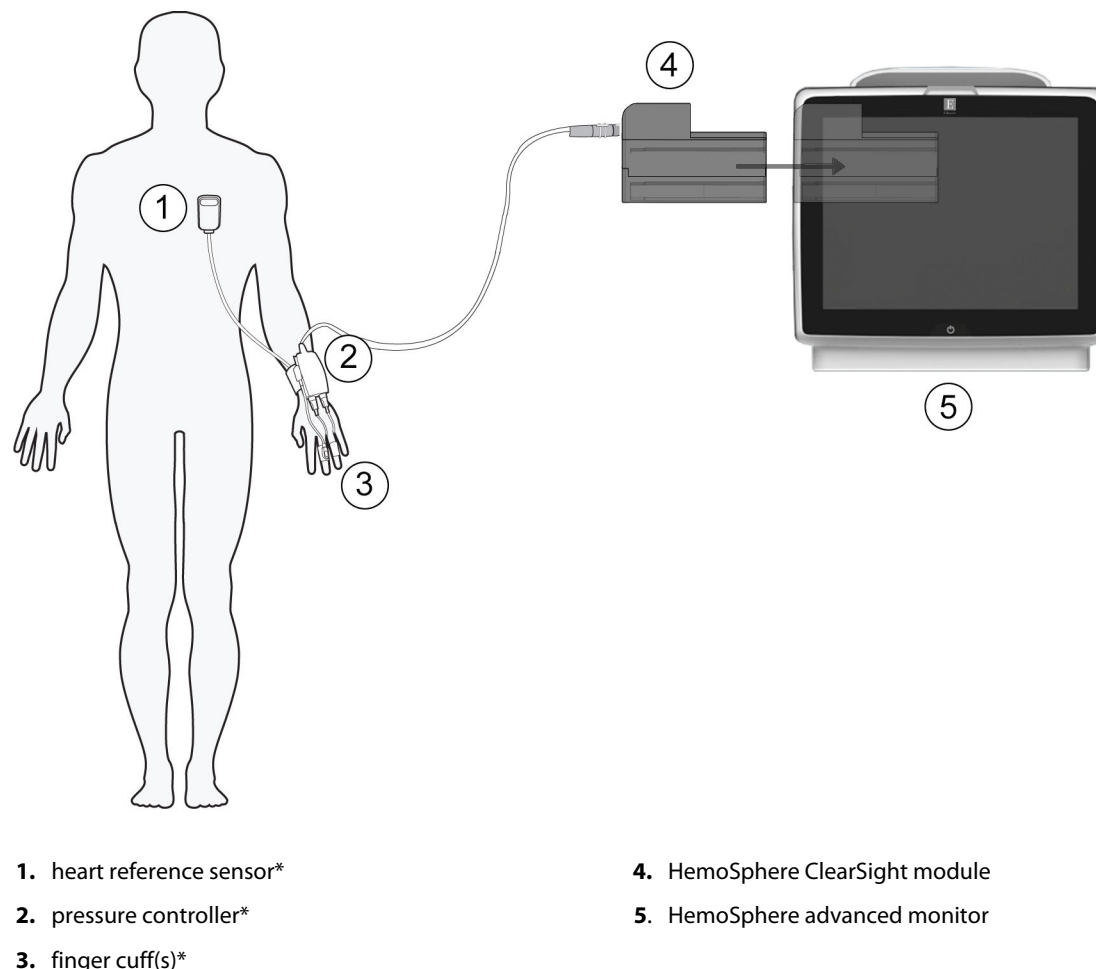

Figure 11-1: HemoSphere noninvasive system connection overview
The HemoSphere noninvasive system is composed of the HemoSphere advanced monitor with ClearSight module and connected pressure controller, heart reference sensor, and compatible Edwards finger cuff(s). See system connections in Figure 11-1 on page 190. Accurate measurement of the patient's blood pressure and key hemodynamic parameters is based on the Volume Clamp method, Physiocal method and ClearSight algorithm.
The HemoSphere ClearSight module is compatible with all approved Edwards finger cuffs. See Figure 11-1 on page 190 for an overview of the HemoSphere noninvasive system connections.
Components indicated by \* in Figure 11-1 on page 190 legend are APPLIED PARTS as defined in IEC 60601-1 that in normal use necessarily come into physical contact with the patient for the HemoSphere noninvasive system to perform its function.
3. Attach the pressure controller cable to the HemoSphere ClearSight module. (Figure 11-1 on page 190)